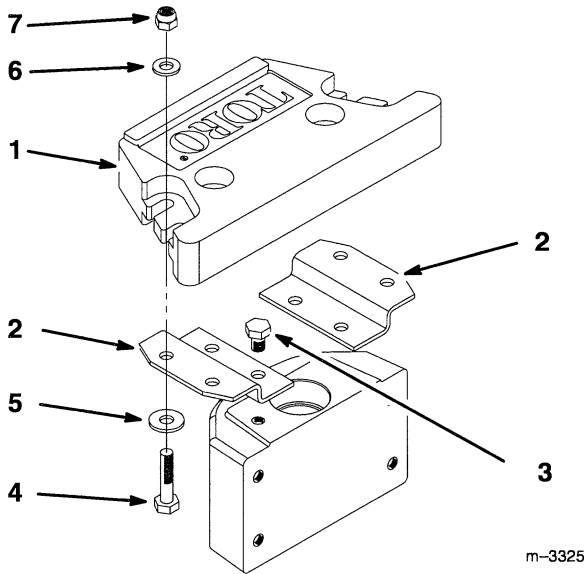

Figure 1
2. Align brackets, as shown, over caster wheel mount and secure with (2) 1/2-13 x 5/8" (19 mm) bolts (Fig. 1).
3. Align weight slots over bracket holes, as shown. Secure with (2) 1/2-13 x 2-1/4" (19 mm) bolts, 1-3/8" (35 mm) and 1" (25 mm) washers and 1/2" locknuts (Fig. 1).